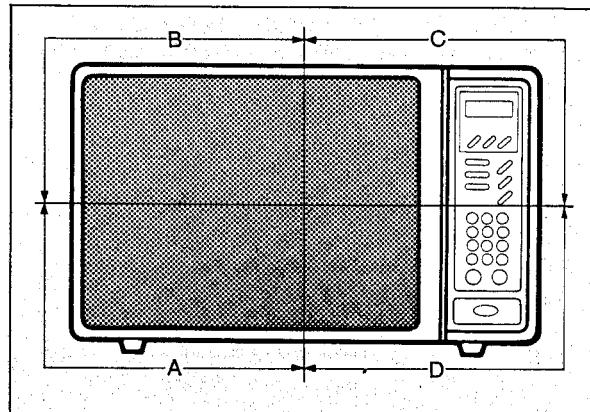

Fig. 30
(See Fig. 30)
- c) Check the gap as item 13.
- 3) To reduce the gap located on part "C" and "D" (See Fig. 30)